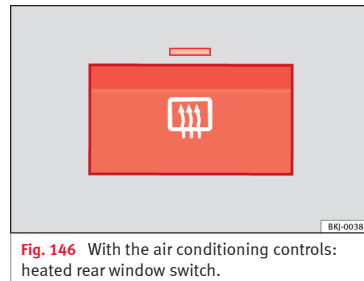

Fig. 146 With the air conditioning controls: heated rear window switch.
- Press the demisting button  » **Fig. 146**